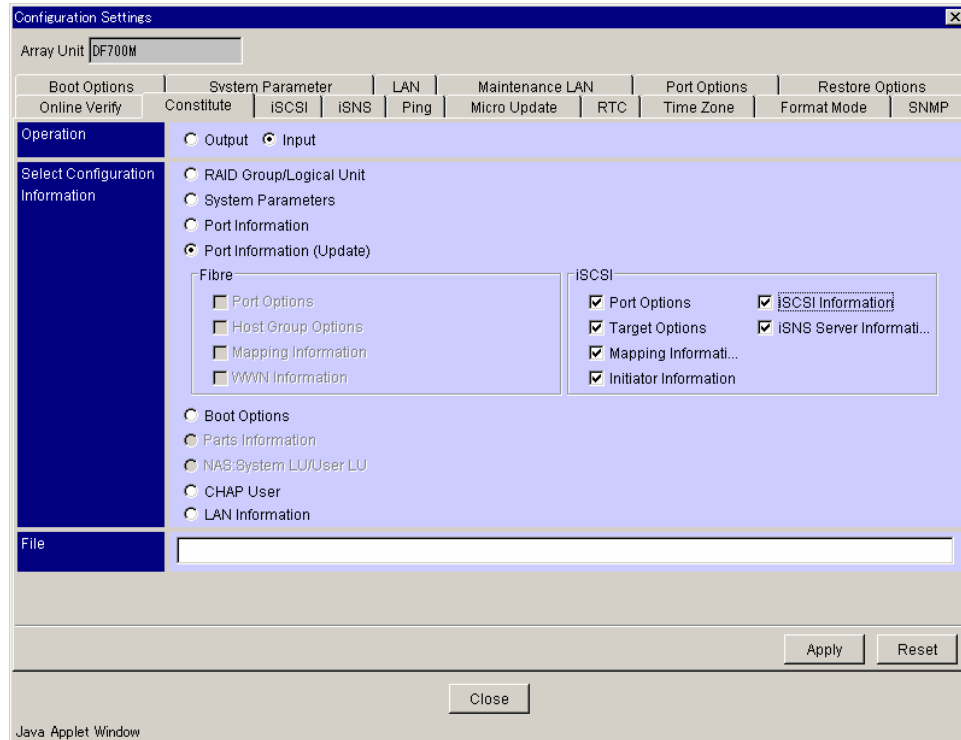

Figure 9.35 Configuration Settings - Port Information Update Panel (input)
2. Click the **Constitute** tab. See Figure 9.35.